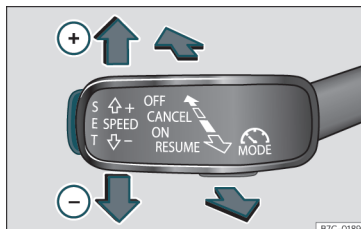

Fig. 44 On the left of the steering column: third lever to operate the CCS.
- Switching on the CCS: move the third lever to **ON** »» Fig. 44. The system switches on but it does not control the speed as no speed has been programmed.
- Activating the CCS: press the button **SET** »» Fig. 44. It memorises and maintains the current speed.
- Temporarily switching off the CCS: move the lever to **CANCEL** »» Fig. 44 and release it or press the brake pedal. The cruise control system is switched off temporarily.
- Reactivating the CCS: move the lever to **RESUME** »» Fig. 44 and release it. The memorised speed is saved and controlled again.
- Disconnect the CCS: turn the key to position **OFF** »» Fig. 44. The system is disconnected and the memorised speed is deleted.